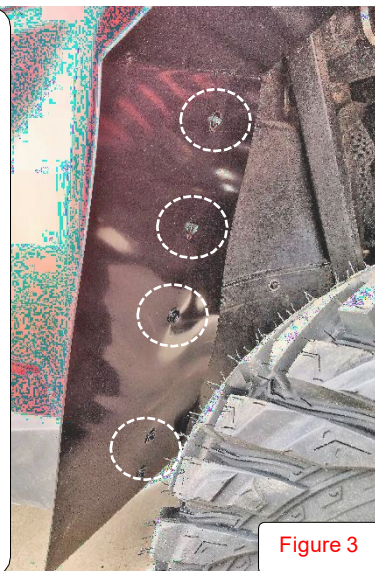

Figure 3
- 6) Place the fender flare up against the body as shown in **Figure 3**, add a washer to each bolt, and finger tighten them allowing for adjustment.